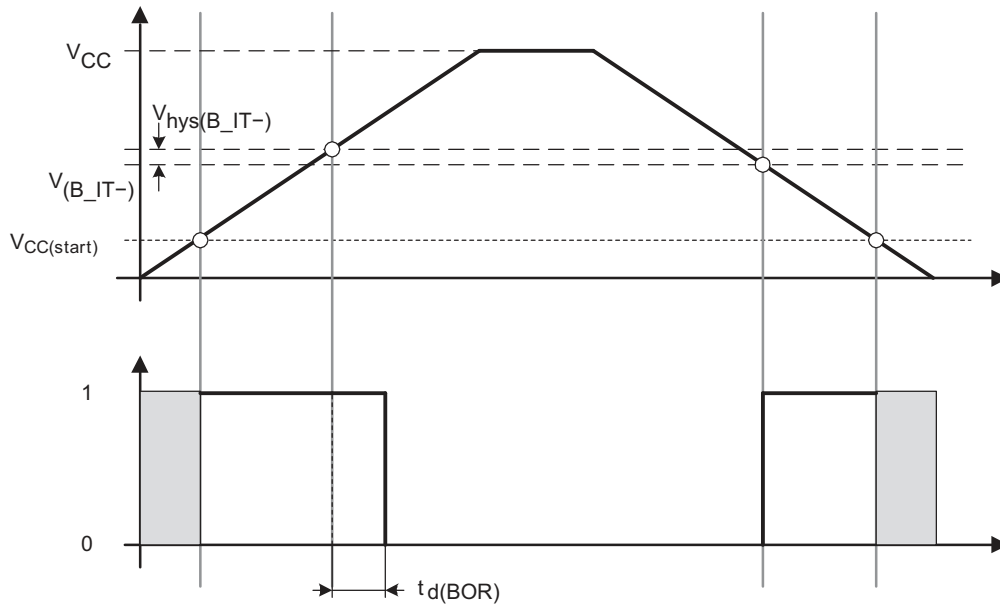

Figure 9. POR/Brownout Reset (BOR) vs Supply Voltage
| V CC(start)  | See Figure 9  | dV CC /dt ≤ 3 V/s |                 |     | 0.7 × V (B_IT-) |      | V    |
| V (B_IT-)    | See Figure 9 through Figure 11  | dV CC /dt ≤ 3 V/s |                 |     |                            | 1.71 | V    |
| V hys(B_IT-) | See Figure 9  | dV CC /dt ≤ 3 V/s |                 | 70  | 155                        | 210  | mV   |
| t d(BOR)     | See Figure 9 (2)   |                              |                 |     |                            | 2000 | μs   |